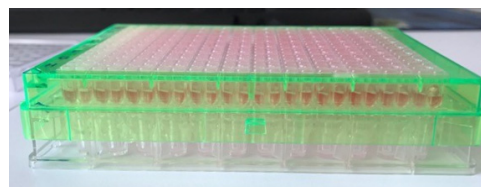

Figure 40. Examples of pictures of cartridges.
- Take a picture of the XF Sensor cartridge from above and from the side that includes all wells (see **Figure 40**). Make sure not to lift the cartridge for the pictures.